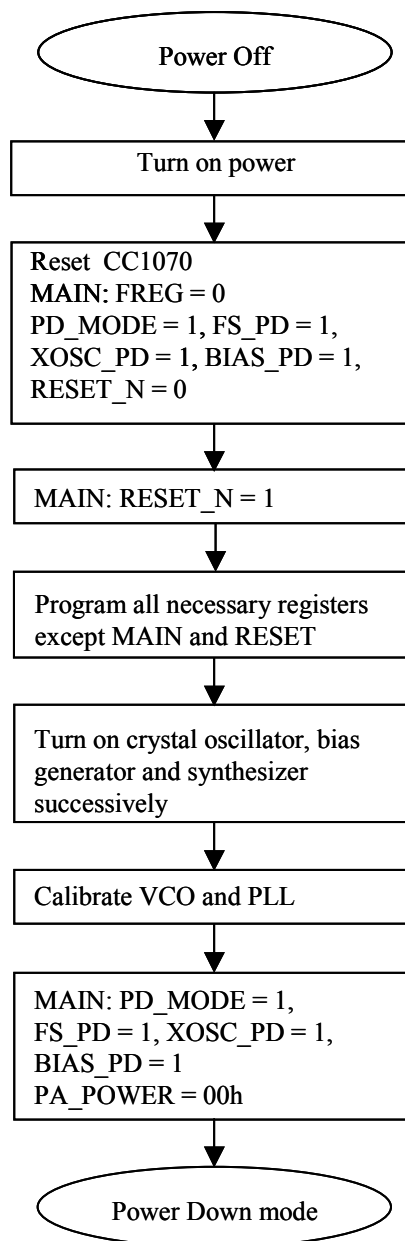

Figure 18. Initializing sequence
**CC1070** offers great flexibility for power management in order to meet strict power consumption requirements in battery-operated applications. Power down mode is controlled through the *MAIN* register. There are separate bits to control the TX part, the frequency synthesizer and the crystal oscillator in the *MAIN* register. This individual control can be used to optimize for lowest possible current consumption in each application. Figure 18 shows a typical power-on and initializing sequences for minimum power consumption.